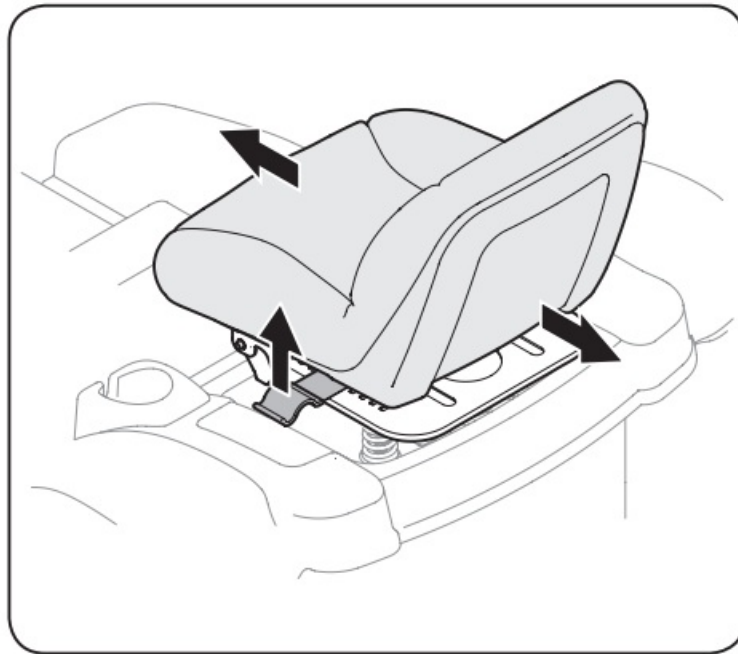

Figure 6-4
1. While sitting in the seat, grasp the seat adjustment lever on the left side of the seat and pull it upward to disengage from the seat index plate. See Fig. 6-4.
2. Slide the seat to the desired position. See Fig. 6-4.